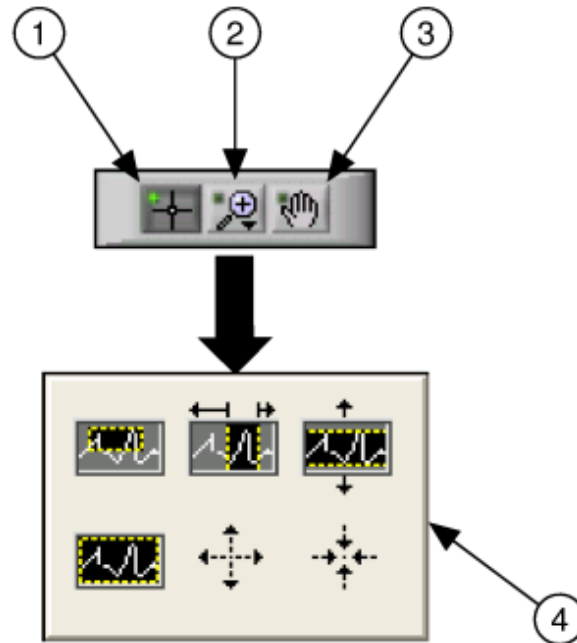

Figure 7.14: 1. Cursor Movement Tool, 2. Zoom Button, 3. Panning Tool, 4. Zoom Pull-down Menu
5. Right-click the waveform chart and select Visible Items>>Graph Palette from the shortcut menu to display the graph palette, as shown in Figure 7.14. You can place the graph palette anywhere on the front panel.